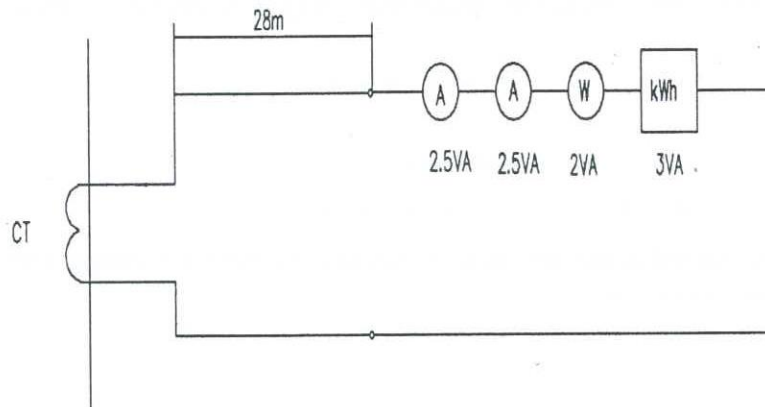

Figure Q3
- b) In a 33 kV electrical system metering circuit, 4 meters are connected to a CT as shown in Figure Q3. The distance from CT to the meter panel is 28 m. The CT and the meters are connected using a 2 Core, 4 mm2 Cu cable. Cable resistance per meter is 4.61 mΩ/m. The CT ratio is 200/5 A. The available burden ratings of CT are 2.5, 5, 10, 15, 20 and 30 VA.